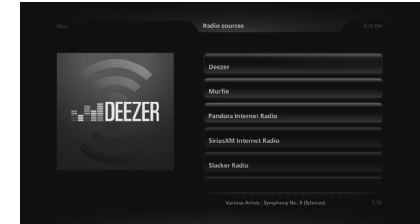

Figure 20
2. Press the ►|| (SELECTS) Push-button on the Remote Control to select the “Streaming Menu”. Refer to figure 20.